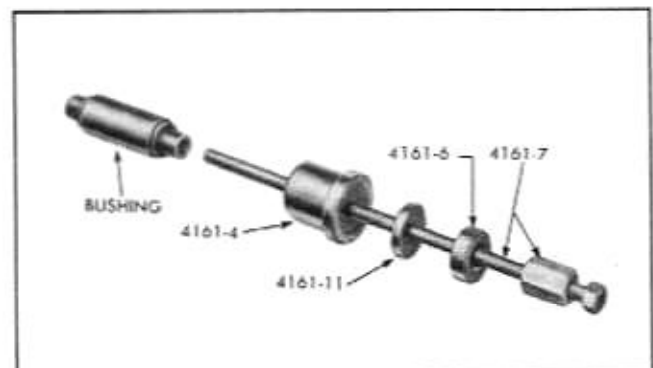

Fig. 4-56 Rear Bushing and Components of Replacer Tool J-4161-A
a. Oil threads and insert screw and nut assembly 4161-7 through thrust bearing 4161-6, washer 4161-11, flanged adapter 4161-4, and new bushing assembly (Fig. 4-56).
a. Oil threads and insert draw bolt 4161-5 with hex nut 4161-7 through thrust bearing 4161-6, washer 4161-11, flanged adapter 4161-4, and new spring bushing assembly (Fig. 4-56).